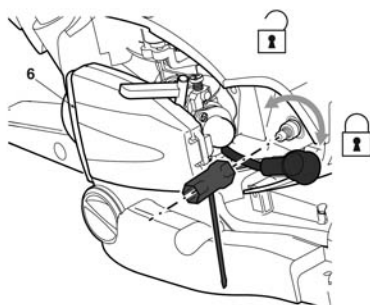

Fig. 21
- > Unplug the spark plug connector [5] (Fig. 21)
- > Loosen the spark plug with the spark plug wrench [20] anticlockwise and carefully remove it (Fig. 21)